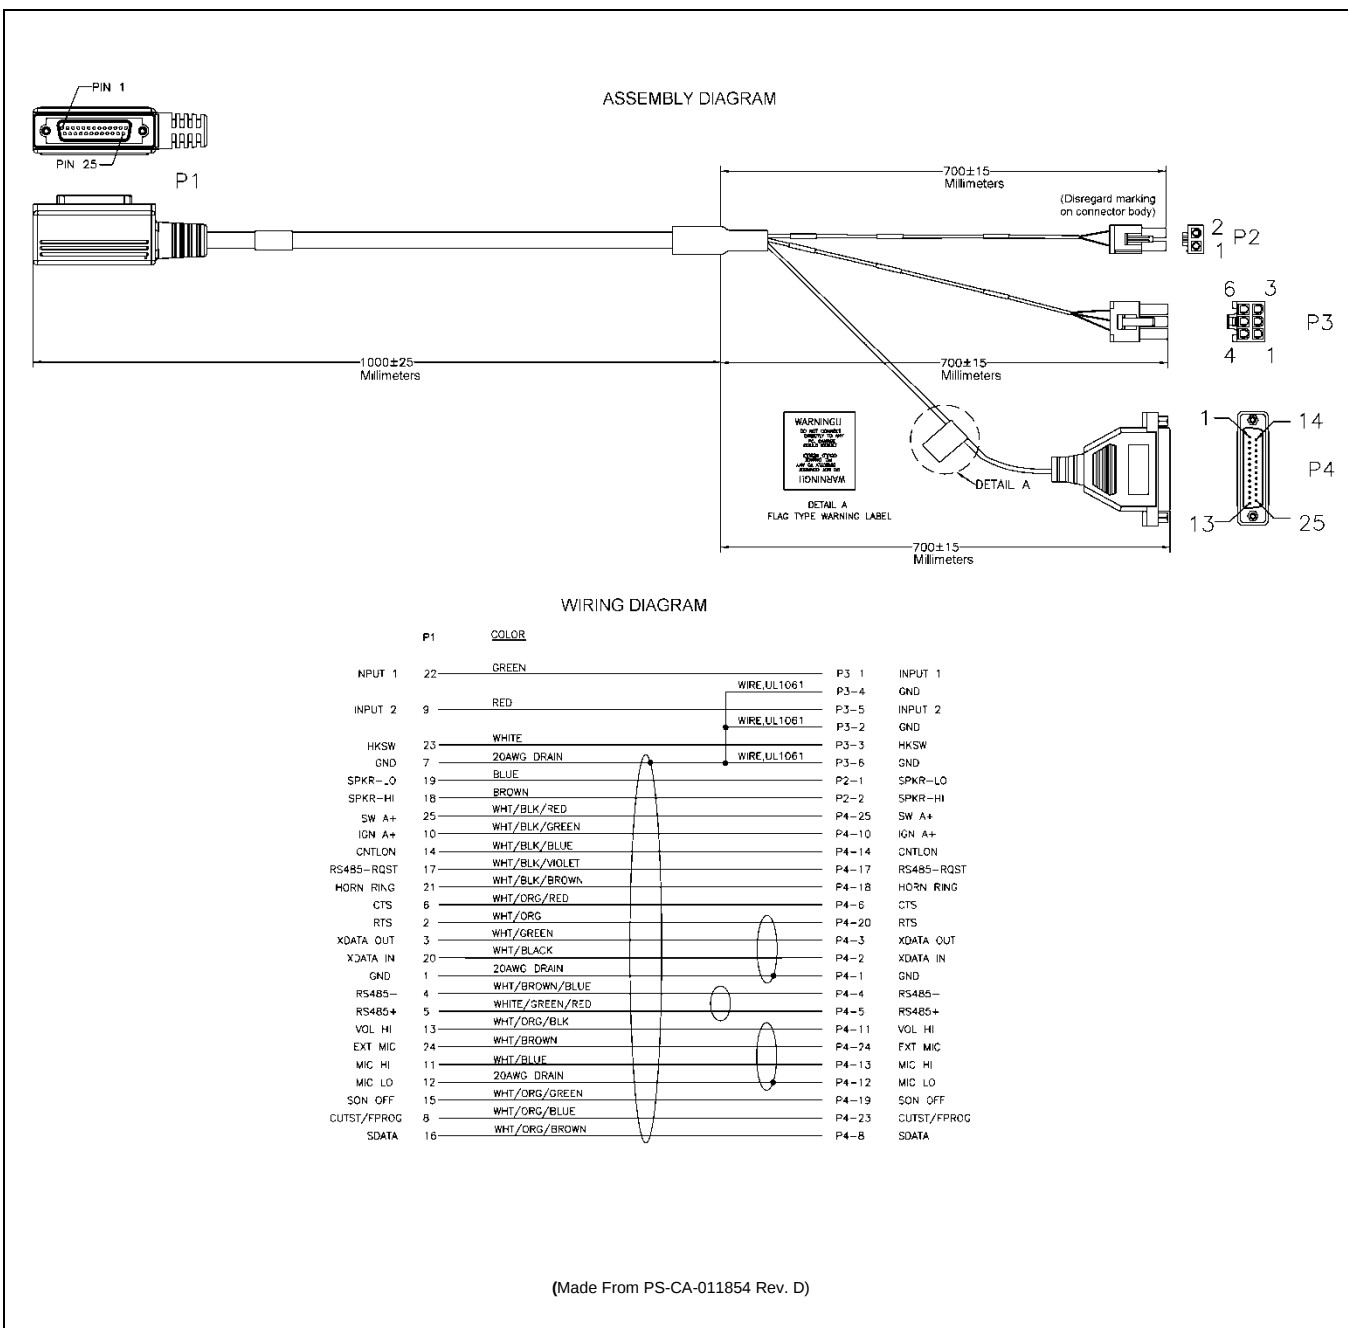

Figure 12-2: CH-721 Option Cable CA-011854-001
CH-721 Option Cable CA-011854-001 can be used to connect optional equipment to the 25-pin D-subminiature (DB-25) connector on the rear of the CH-721. This cable expands the connections available at the 25-pin connector to three (3) separate connectors. The cable's assembly and wiring diagrams are shown in Figure 12-2 below.